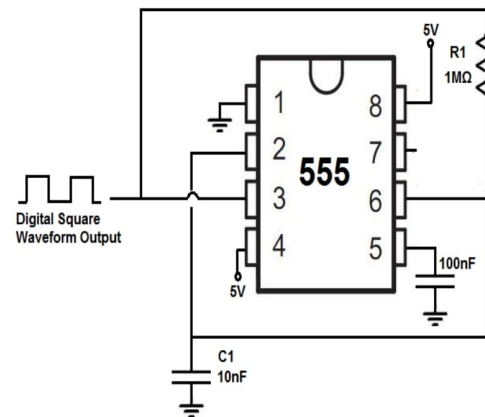

Fig. 7. Connection in 555 timer circuit
- 1) We connected the 555 timer circuit like the figure 7